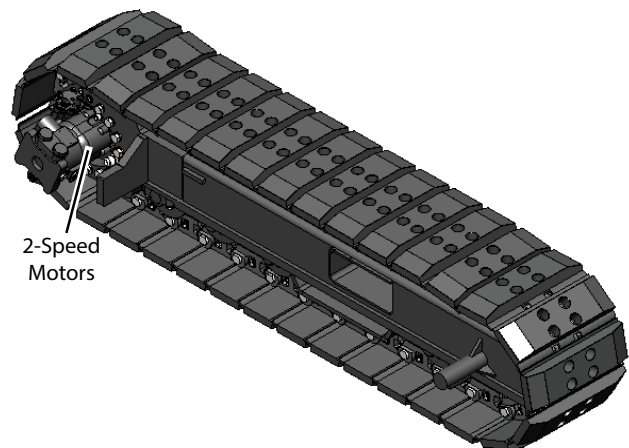

Figure 5-29. Two-Speed Hydraulic Motors
2. Disconnect, label and plug fittings on hydraulic hoses to the hydraulic motors. (Figure 5-29)